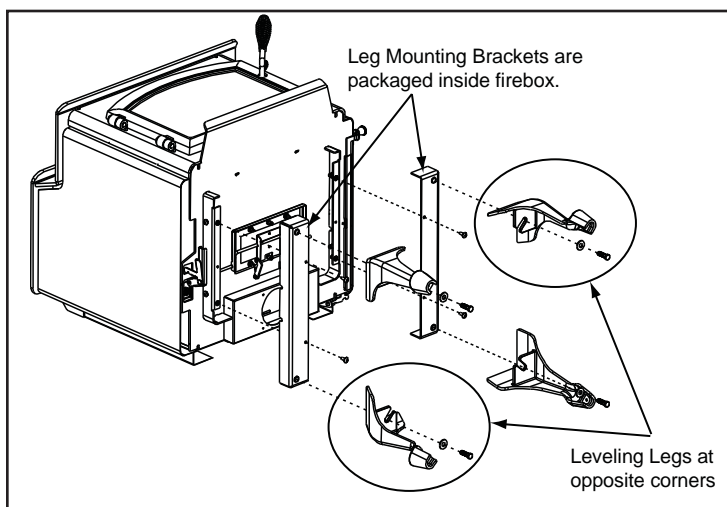

Figure 23.1
3. Loosely assemble bolts into the corner of the mounting brackets for leg attachment. **Figure 23.1.**
4. Slide legs onto mounting brackets making sure the legs are up against the bracket and secure with the bolts supplied. There are leveling bolts in 2 legs. These leveling bolts should be in opposite corners. **Figure 23.1.**